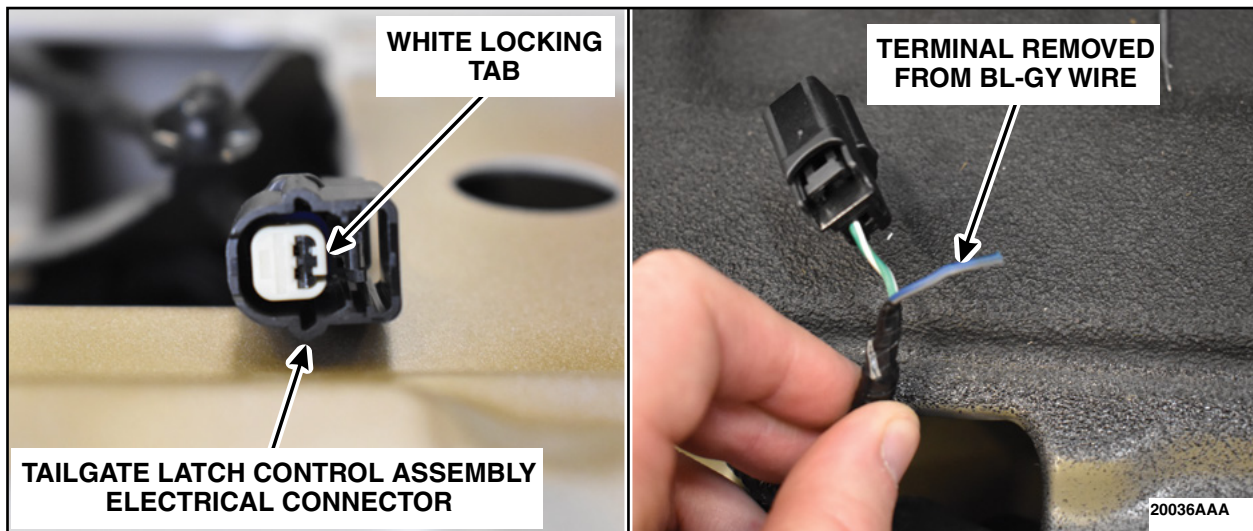

FIGURE 55
75. Remove the white locking tab and the Blue-Grey (BL-GY) wire from the tailgate latch control assembly connector. Cut off the terminal of the BL-GY wire. See Figure 55.